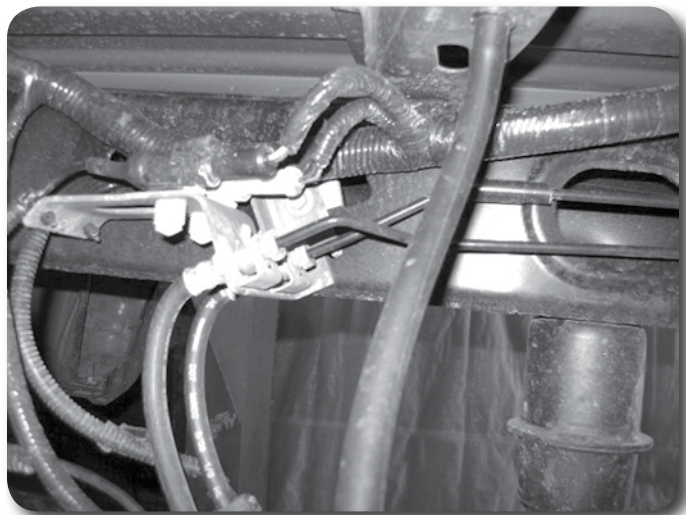

Figure 40
78. Disconnect the rear brake line from the frame. **Figure 40**